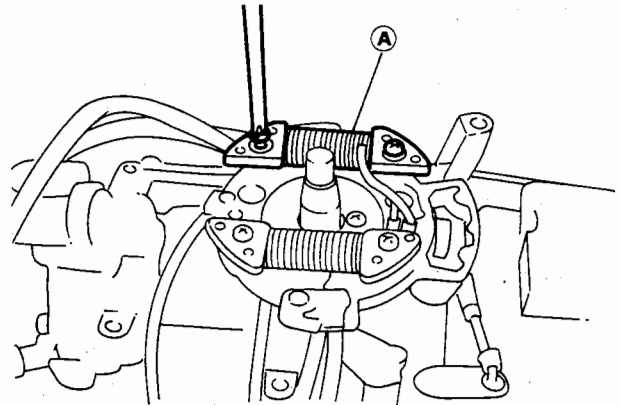

Fig.13.1
- Notes: (1) The above table lists major components of the electric starter kit. For bolts used with these parts, refer to the parts list in the kit. An asterisk "*" refers to optional parts. Refer to items 2) and 5) in section 4.
- (2) Power to operate lights is available from the battery.
(3) Installation
- Install alternator **A**. (Refer to page 48.) (Fig.13.1)